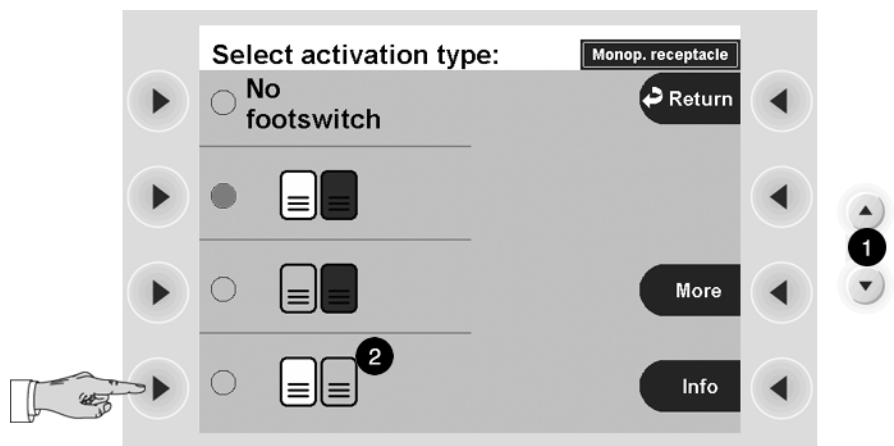
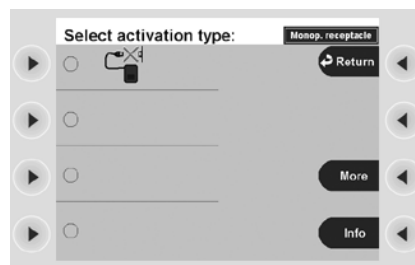

Fig. 5-16
Fig. 5-17
In the window Fig. 5-17 you will see a list of the possible footswitch allocations. Scroll with the Down button (1) to the next window Fig. 5-16. You can also use the Select button next to the "Other modes" menu item.